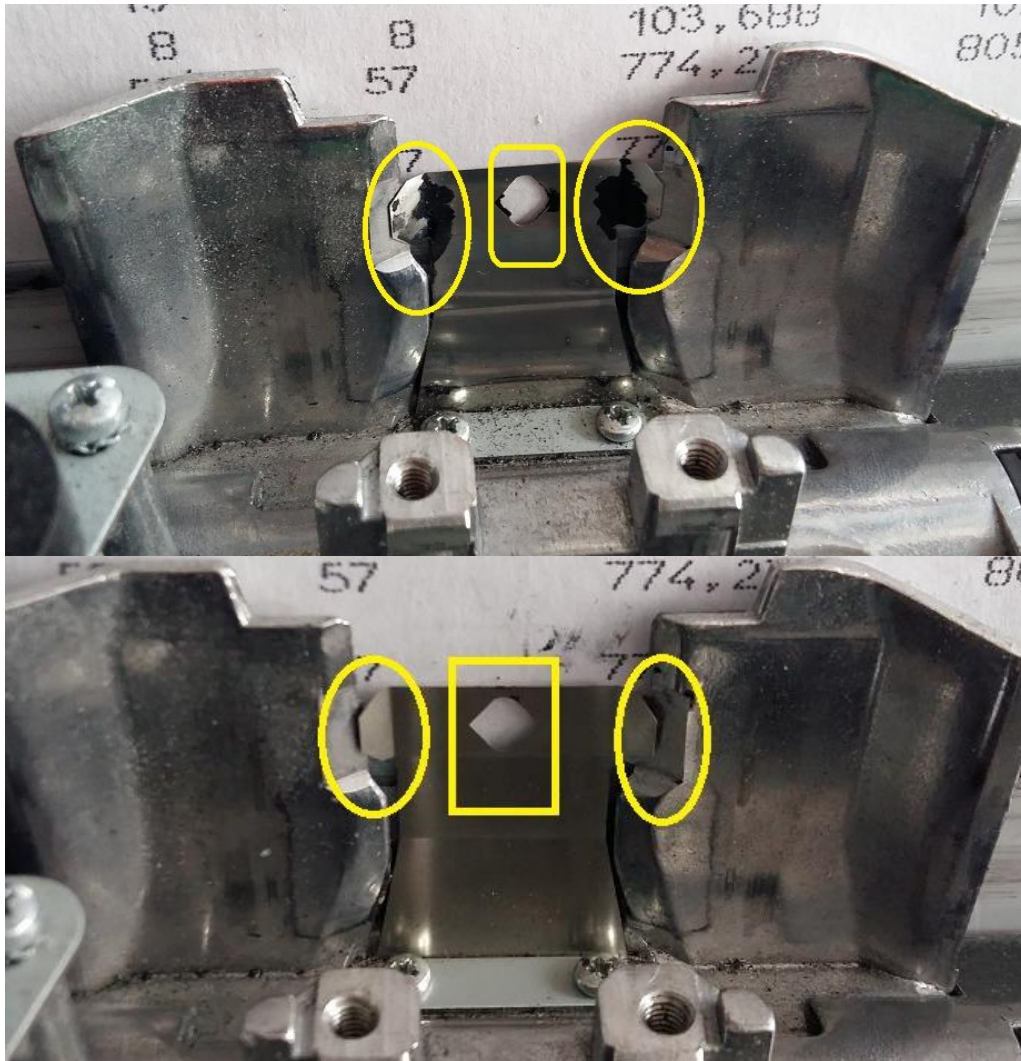

Figure 3. removal of paper or ink fragments
- 9) Remove paper fragments or ink fragments (figure 3).